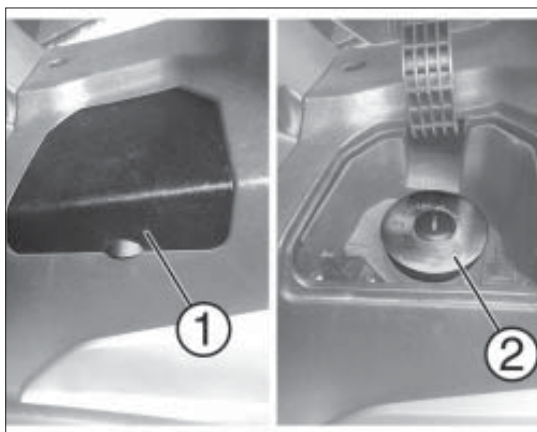

fig. 4
- open the flap 1 fig. 4;
- remove the fuel filler cap 2 fig. 4.